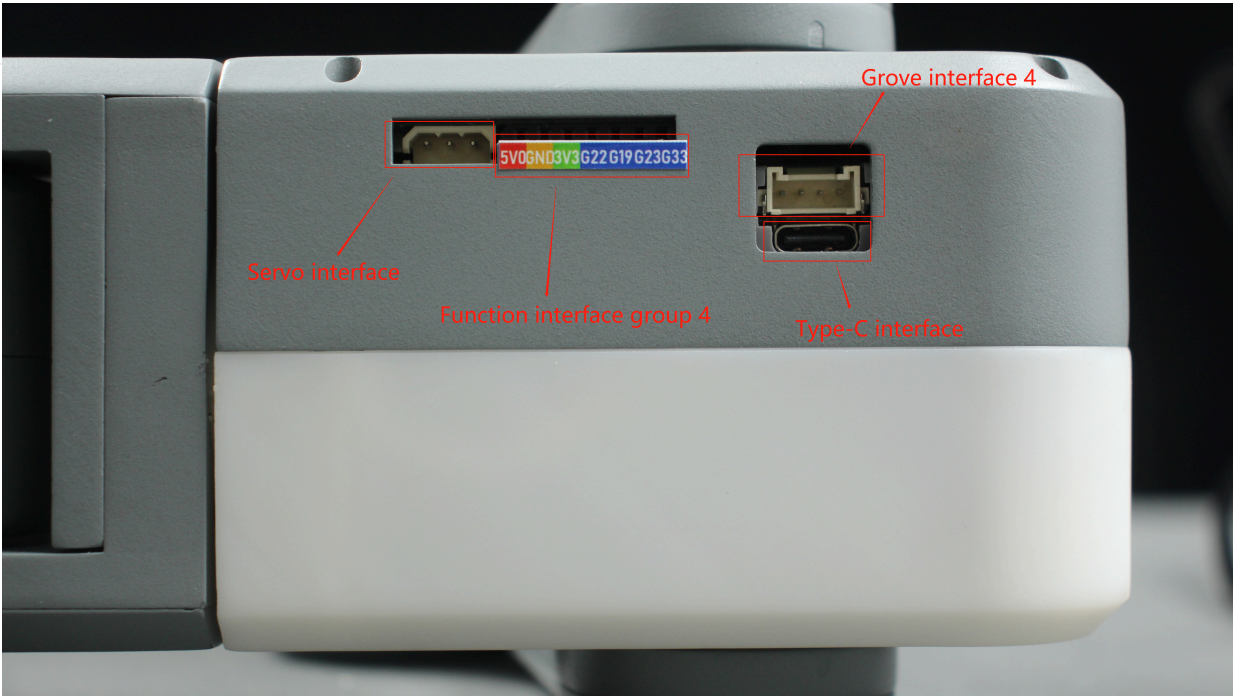

Figure 2-1 End of the robotic arm
A. Figure 2-1 show the side interfaces at the end of the manipulator.